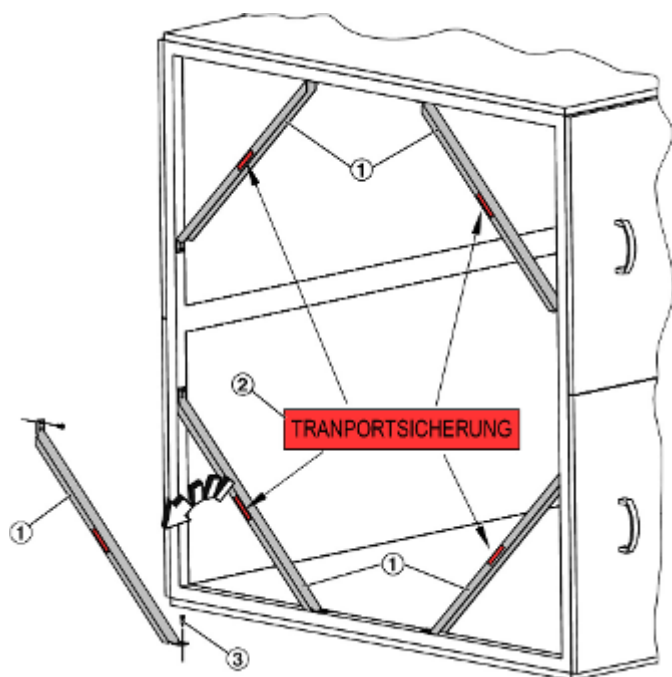

Fig. 8: Cross bars
- 1 ▶ Remove the cross bars (Fig. 8 /1) that are marked with a red sticker (Fig. 8 /2).
- 2 ▶ Then close the drilled holes in the frame with screws (Fig. 8 /3).